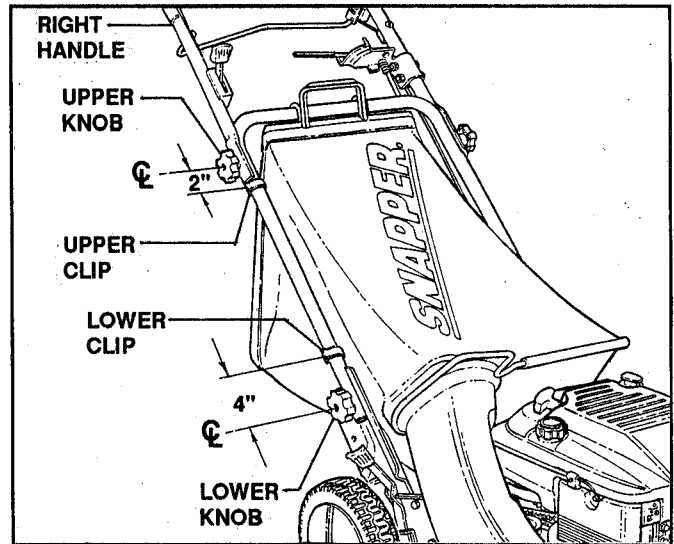

FIGURE 3.10
- D. If the wheel drive control fails to return quickly to the "OFF" position when released, check for binding at the cable holdings located on the side of the right handle. The upper clip should be located 2" below the center of the upper knob; the lower clip should be 4" above the center of the lower knob. The cable should slide freely with the clips installed at these locations. See Figure 3.10.